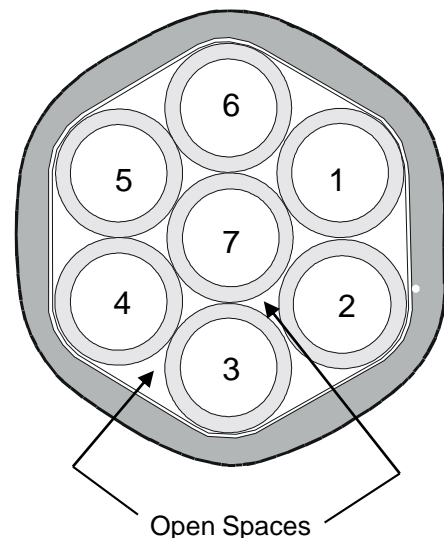

Figure 9
8.1 In addition to using an approved waterproofing or firestopping method to seal around the outside of a tube cable jacket, the open spaces between the tubes must also be sealed to prevent the intrusion of water, smoke, ground gases, etc. whenever a open tube cable end is exposed to such elements. **See Fig. 9.**